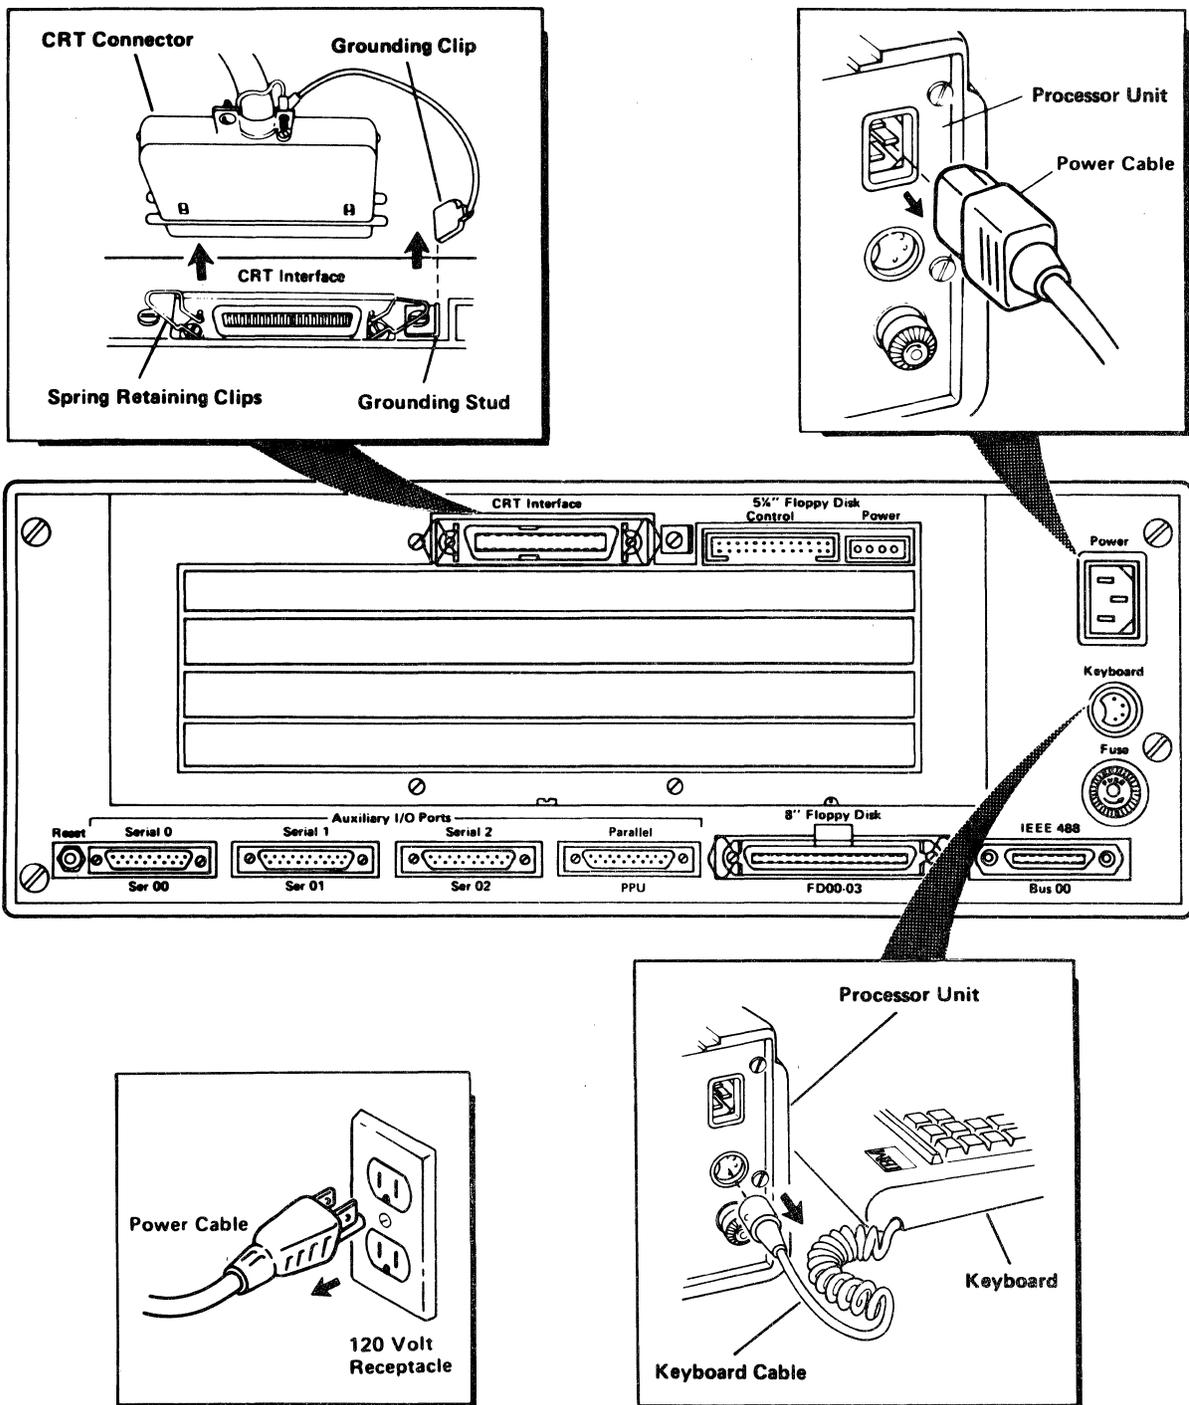

Figure 4-2. Processor Rear Panel Connections
1. Position the Computer System Power switch Off and unplug the main power cord from the wall outlet (See Figure 4-2).
2. Remove the main power cord from the back of the processor unit. (See Figure 4-2).
3. Remove the keyboard connector from the back of the processor unit and move the keyboard to another area to provide work space (See Figure 4-2).
5. Disconnect the CRT cable assembly by spreading the spring retaining clips holding the connector in place disconnecting the grounding clip, and pulling the connector away from the rear of the processor unit. (See Figure 4-2).
19. Reconnect the CRT cable assembly, the keyboard connector, main power cord, and any other connector that was connected to the system. (See Figure 4-2).
1. Position the Computer System Power switch Off and unplug the main power cord from the wall outlet. (See Figure 4-2).
5. Disconnect the CRT cable assembly by spreading the spring retaining clips holding the connector in place and pulling it away from the rear of the processor unit. (See Figure 4-2).